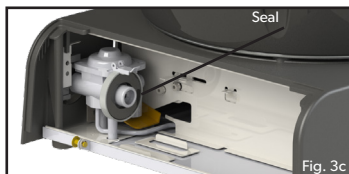

Fig. 3c
- Check that the seal is in place and is not worn or damaged before connecting the cartridge (see Fig. 3c).